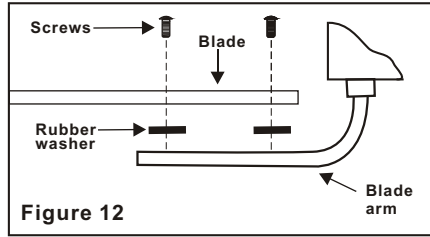

Figure 12
**Step 1** Attach the blades to the blade arms using three screws and rubber washers as shown in Figure 12. Start a screw into the arm, do not tighten. Repeat for the 2 remaining screws and washers.